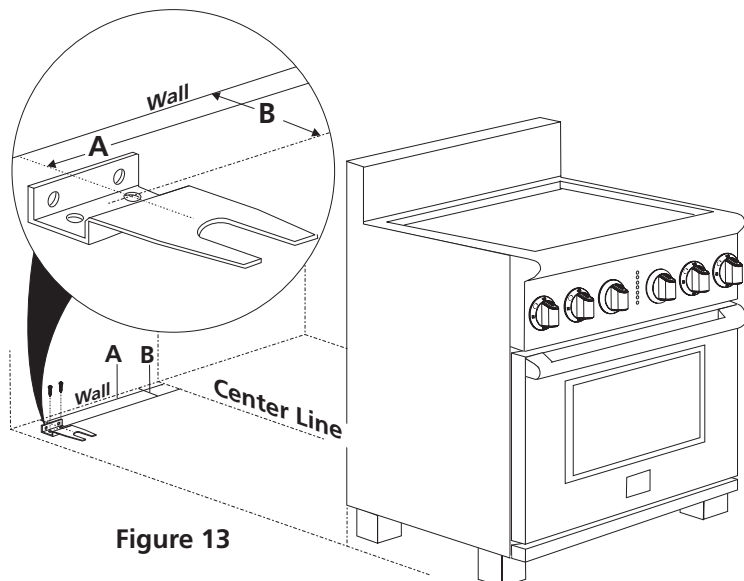

Figure 13
3. Unfold paper template and place it flat on the floor with the back and side edges positioned exactly where the back and sides of range will be located when installed. (Use the diagram in figure 13 to locate bracket if template is not available.)
5. Remove template and place bracket on floor (see figure 13). Line up holes in bracket with marks on floor and attach the bracket using the screws provided. Brackets must be secured to solid floor. If attaching to concrete floor, first drill 3/16" (4.8 mm) dia. pilot holes using a masonry drill bit.